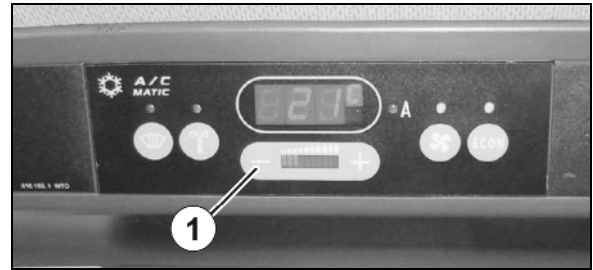

Fig. 194
1. Unscrew the hood (Fig. 194/1) from the cabin roof.